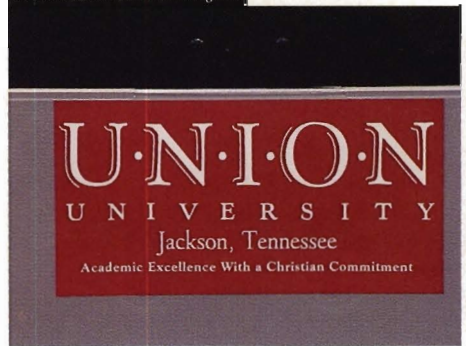

Figure 9
Step 10: Select black as a color, then And mode under the Mode menu. And mode uses the shape of the current brush, but not the colors (see page 22 in the ToasterPaint manual section). Place the brush. This results in a high-contrast graphic over white, with the full-palette range available to you for flood filling. (See Figure 9.) Switch back to Normal mode.